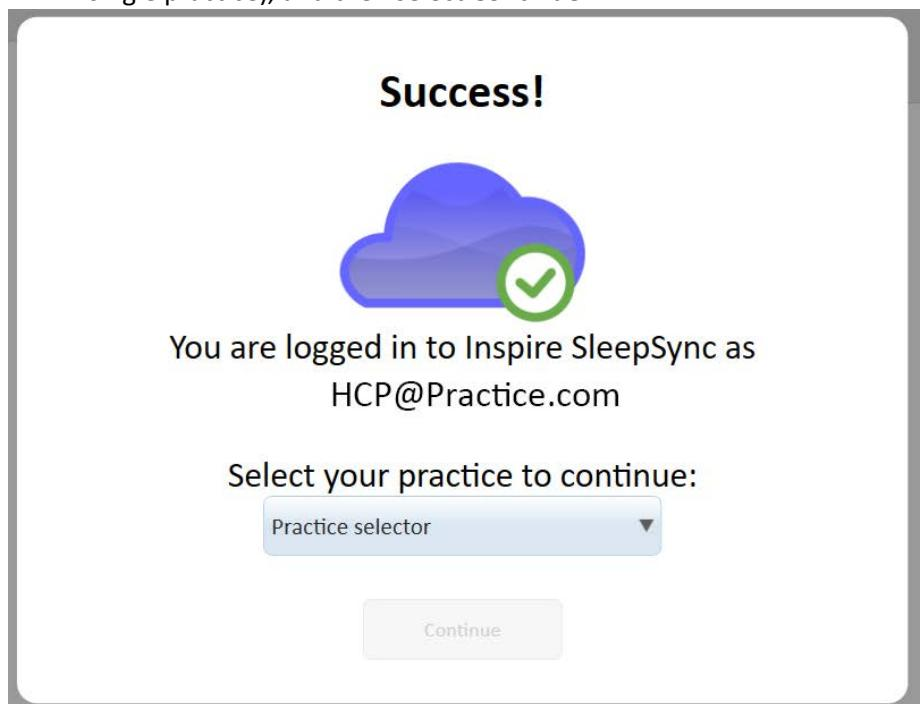

Figure 3-3. Select a Practice Screen
- g. If you belong to more than one practice, select the desired practice from the dropdown menu (Figure 3-3), (there is no practice selector if you belong to a single practice), and then select **Continue**.